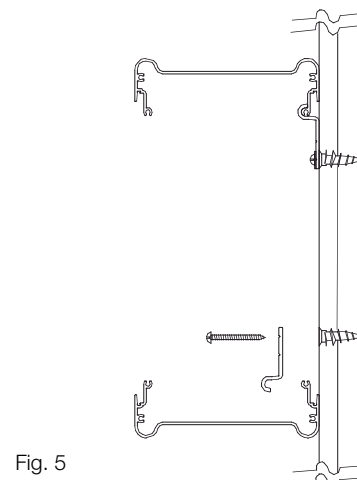

Fig. 5
5. Place lower Mounting Rail in position and transfer hole pattern. Insert anchors, screws and tighten. (Fig. 5) Cabinet installation is now complete